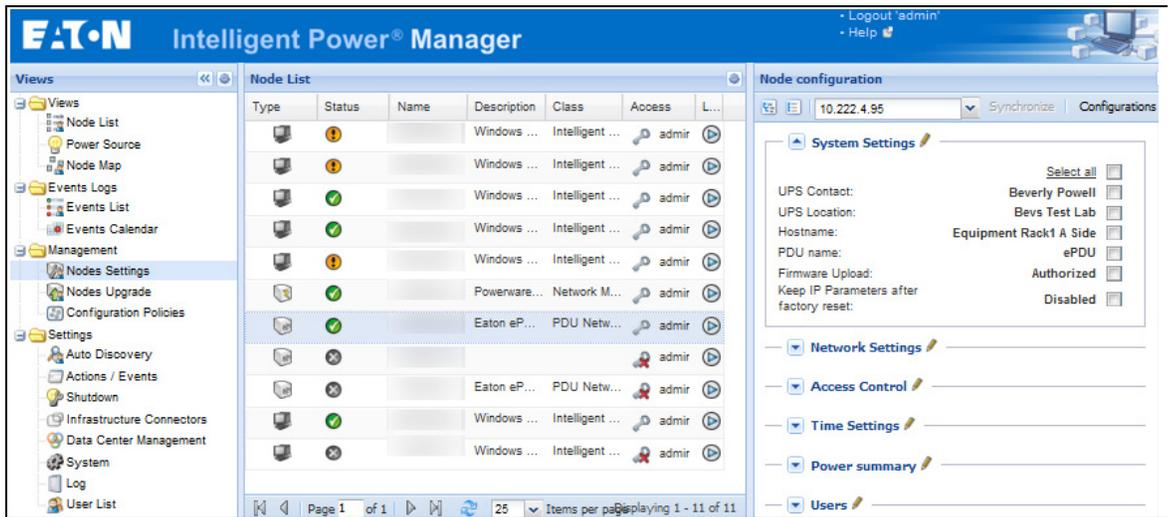

Figure 69. Nodes Settings View
2. Select one node (card) from the Node List page (see Figure 69).
2. Select one node (one card) from the Node List page (see Figure 69).